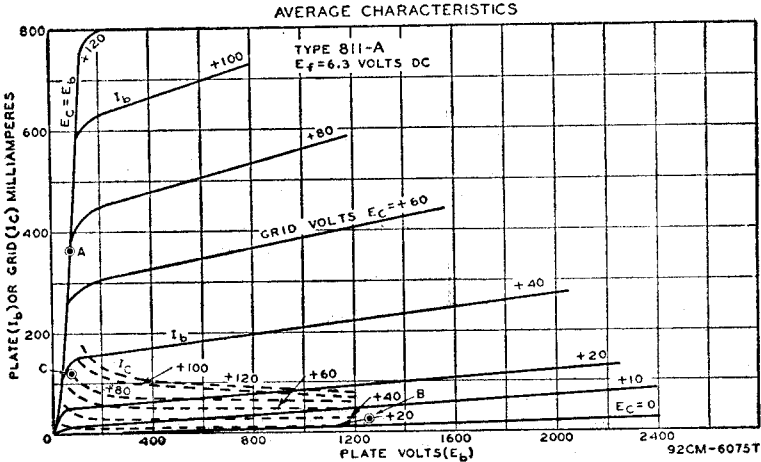

Fig. 48
Calculate operating values for the RCA-811A for linear rf power amplifier service under ICAS conditions. Refer to Fig. 48 for curve values.
- (1) Select $E_b = 1250$ volts.
- (2) Calculate: $I_{be} = 0.9 P_{ine}/E_b = 0.9 \times 165/1250 = 0.12$ ampere.
- (3) Calculate: $I_{bmax} = 3 I_{be} = 3 \times 0.12 = 0.36$ ampere.
- (4) Calculate: $I_b = I_{be}/1.4 = 0.12/1.4 = 0.09$ ampere.
- (5) On Fig. 48 locate $I_{bmax} = 0.36$ ampere at Point A. Read $E_{cmax} = 80$ volts; $E_{bmin} = 80$ volts.
- (6) Calculate $I_{b0} = I_{be}/5 = 0.12/5 = 0.024$ ampere.
- (7) $P_{Tne} = E_b I_{be} = 1250 \times 0.12 = 150$ watts.
- (8) Calculate: $PEP = (I_{bmax}/4)(E_b - E_{bmin}) = (0.36/4)(1250 - 80) = 0.09(1170) = 105$ watts.
- (9) $P_p = 0.7 P_{ine} - 0.5 PEP = (0.7) 150 - (0.5) 105 = 52.5$ watts.
- (10) Record: $E_g = E_{cmax} = 80$ volts.
- (11) On Fig. 48 locate $I_{cmax} = 0.12$ ampere at Point C.
- (12) Calculate: $I_{ce} = I_{cmax}/3 = 0.12/3 = 0.04$ ampere.
- (13) Calculate: $I_c = I_{ce}/1.4 = 0.04/1.4 = 0.028$ ampere.
- (14) Calculate: $P_d = E_g (I_{cmax}/4) = 80(0.12/4) = 2.4$ watts.